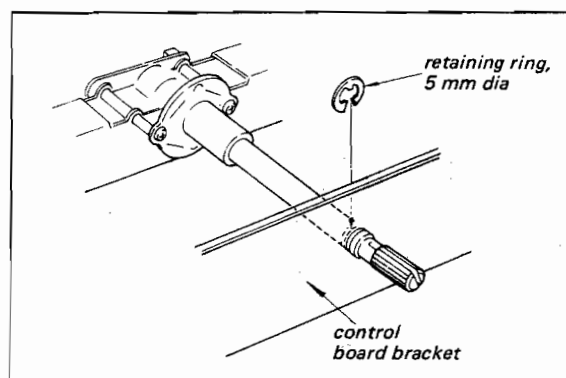

Fig. 2-12. Control board removal
1. Remove the retaining ring securing the defective switch, located at the back side of control board bracket, as shown in Fig. 2-12.